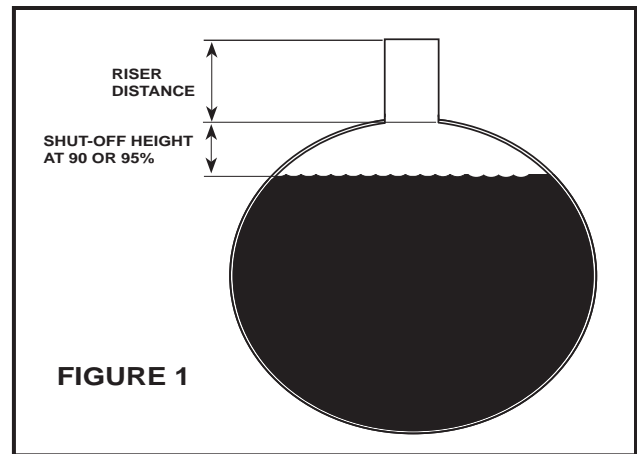

FIGURE 1
- Determine the SHUT-OFF DISTANCE at 90 or 95% full. (See Fig. 1 & Mfg. tank ullage chart). Record this distance as you will need it later when installing the valve.
- Measure from the top of the tank up to the point where the valve is to be attached. This is your Riser Distance shown in Fig. 1. Record this length. **Note:** this distance needs to include all pipe fittings, spill containers, etc. all the way up to the point where the valve is to be attached.
- Now you can make piping adjustments to insure that the line on the float will be in the tank at your desired shut off point when the unit is installed into the tank. To make these adjustments you can change the Riser Distance shown in Fig. 1. Lastly, you can make minor adjustments by moving the floats up or down. To do this loosen the allen screws on the float adjustment collars, shown in Fig. 3, move the floats up or down, and then tighten the allen screws.